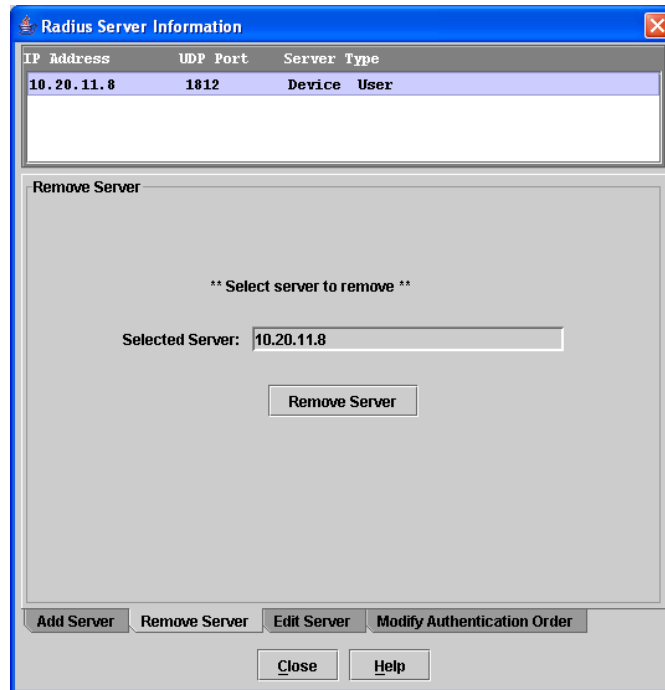

Figure 3-2. Remove Server
2. In the Radius Server Information dialog, shown in Figure 3-2, click the **Remove Server** tab.